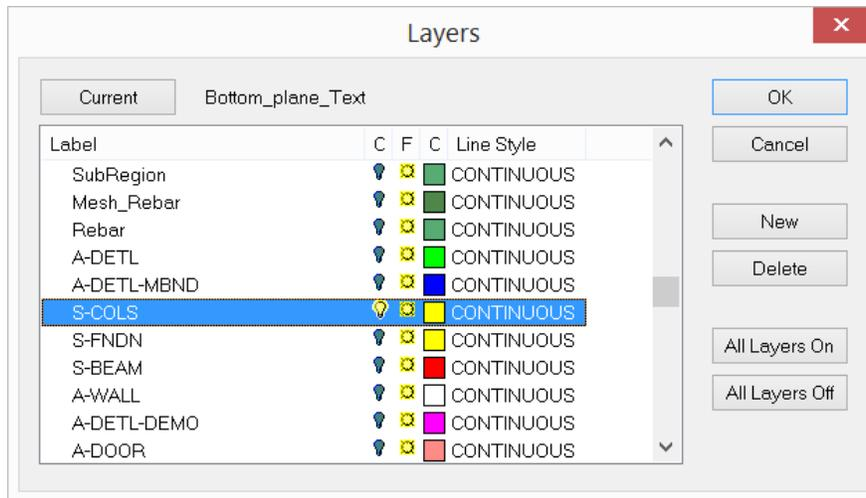

FIGURE 6.4-4 LAYERS DIALOG BOX
- Select the menu item **Home | Display | Layer Settings**, to open *Layers* dialog box. Click on the button “**All Layers Off**”. And this time turn **All Layers Off** and turn on that layer representing the structural slab layer (**Figure 6.4-4**) to display only the polygon representing the slab region(s).